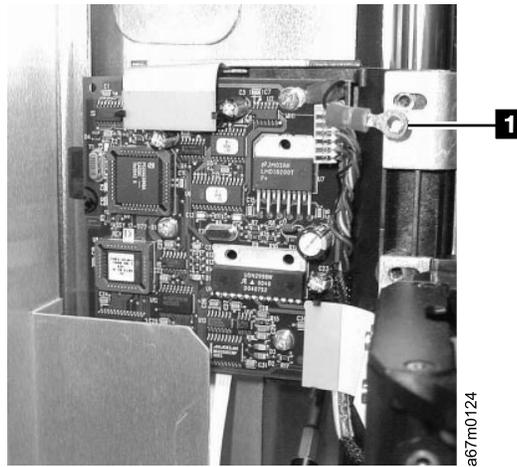

Figure 7-9. Location of ground strap
**Replacing the Picker Carriage Arm Assembly:** To replace the Picker Carriage Arm Assembly, perform the above procedure in reverse order. Refer to Figure 7-9 and observe the location of the ground strap **1** mentioned in step 12 on page 7-10.